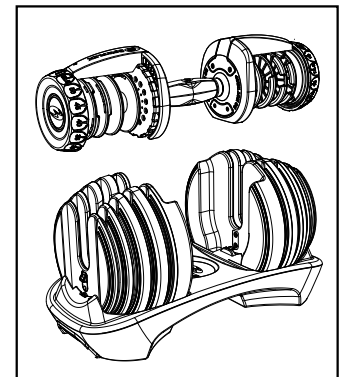

Figure 2
2. You should be able to withdraw the handle from the base leaving all the weight plates behind (Figure 2).